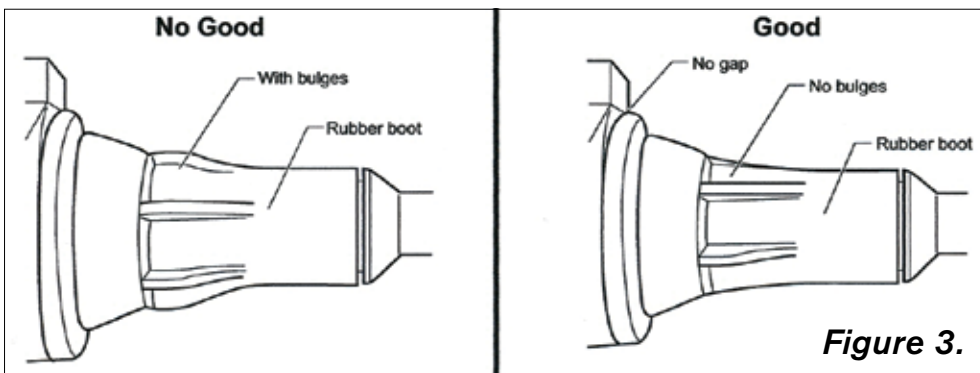

Figure 3.
- Ensure there are no gaps and bulges between the coil body and the rubber boot (Fig. 3).